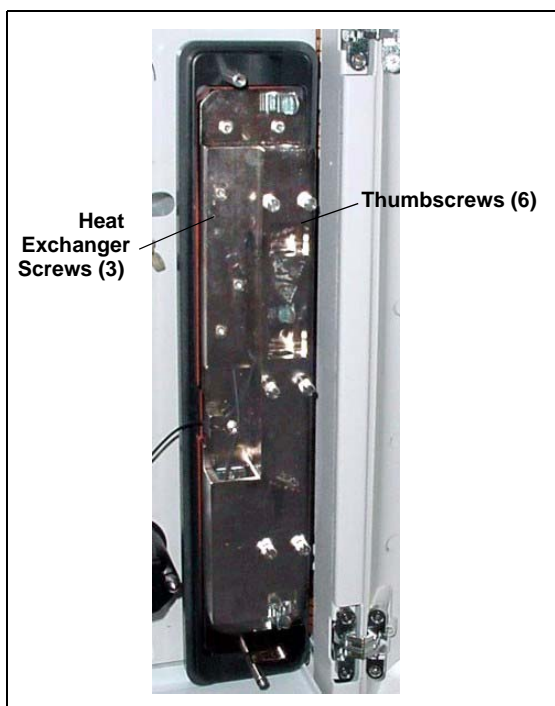

Figure 5-23. ICS-2000 Column Heater Cover Removed
5. Unscrew the six thumbscrews on the top metal plate (see Figure 5-23) and remove the plate.